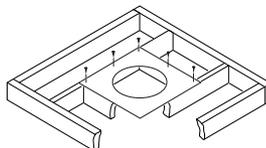

**Figure 19 - Offset with Wall Strap and 45° Elbows**
1. Determine the route your vertical venting will take. If ceiling joists, roof rafters or other framing will obstruct the venting system, consider an offset (see Figure 19) to avoid cutting load bearing members. *Note: Pay special attention to these installation instructions for required clearances (air space) to combustibles when passing through ceilings, walls, roofs, enclosures, attic rafters, etc. Do not pack air spaces with insulation. Also note maximum vertical rise of the venting system and any maximum horizontal offset limitations.*
*Note: If an offset is needed to avoid obstructions, you must support the vent pipe every 3 feet. Use wall straps for this purpose (see Figure 19, page 14). Whenever possible, use 45° elbows instead of 90° elbows. The 45° elbow offers less restriction to the flow of the flue gases and intake air.*
- Place the flashing over the pipe section(s) extending through the roof. Secure the base of the flashing to the roof and framing with roofing nails. Be sure roofing material overlaps the top edge of the flashing as shown in Figure 19, page 14. There must be a 1" clearance from the vent pipe to combustible materials.